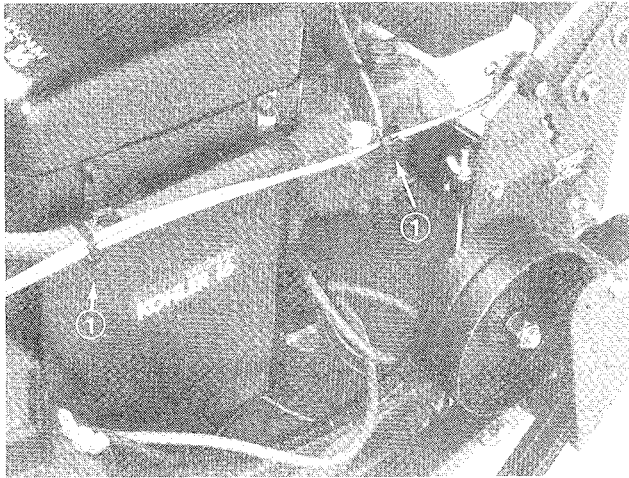

Figure 9
6. Secure wire harness, throttle cable, and fuel line together with (2) wire ties as shown in Figure 9.